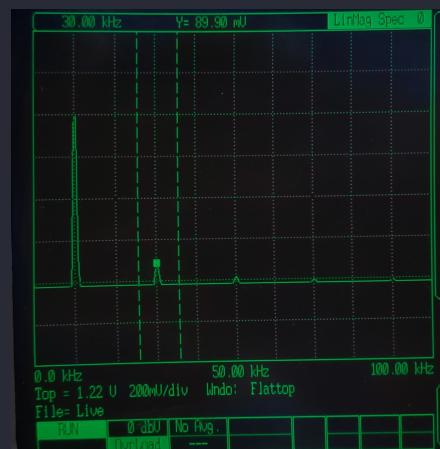

Figure 0.8: SR770 FFT Network Analyzer view
- Triangle Wave: (TRIANGLE waveform on 33500B) The triangle wave is a sum of all odd harmonics of the fundamental frequency as shown in Fig. 0.8. But the amplitude of the harmonics decreases